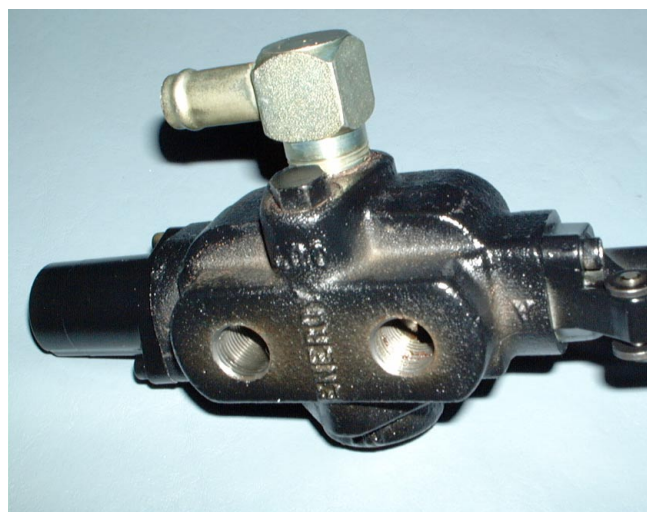

Figure 4
19. If the pressure relief valve will not adjust to the correct specifications, REPLACE THE CONTROL VALVE. See Figure 4.